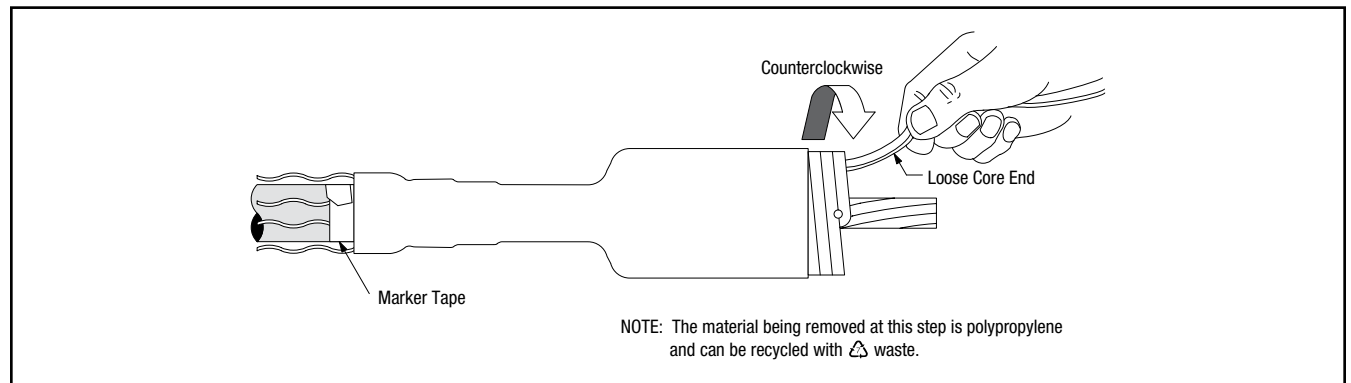

Figure 20
15.3 Slide termination onto cable (loose core end extending out toward cable lug end), aligning base with previously applied marker tape (*Figure 20*).
15.4 Remove the core. Pull while unwinding, counter-clockwise, starting with the loose end (*Figure 20*). Make sure the termination body (not the core) is butted up to the edge of the vinyl tape marker previously applied (*Figure 20*).